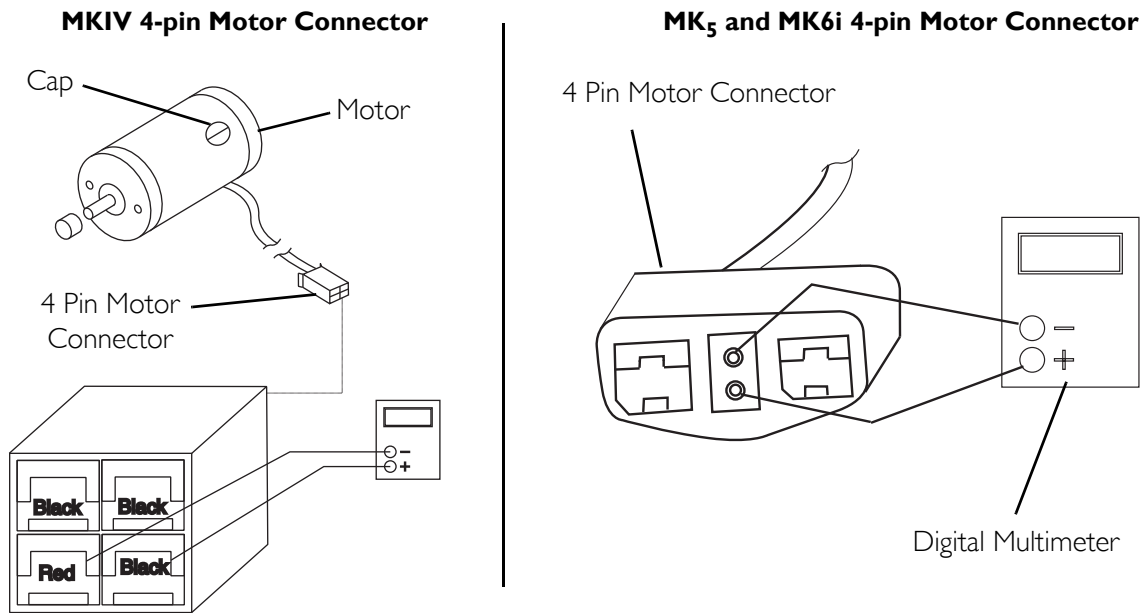

FIGURE 10.4 Electro-Mechanical Parking Brake Testing
NOTE: For this procedure, refer to FIGURE 10.4.
1. On the four-pin motor connector, locate the side-by-side connectors in the black housings (FIGURE 10.4).